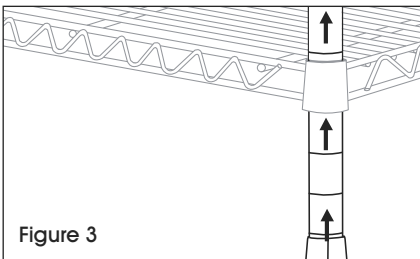

Figure 3
2. Slide post through underside of shelf until shelf slides firmly over supports. (See Figure 3)